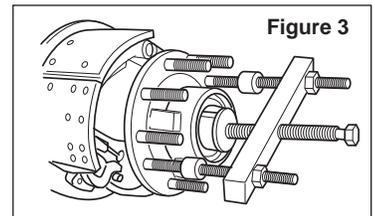

Figure 3
- If the hub is difficult to remove because the seal is stuck on the spindle, use a mechanical puller to remove the hub (see figure 3).